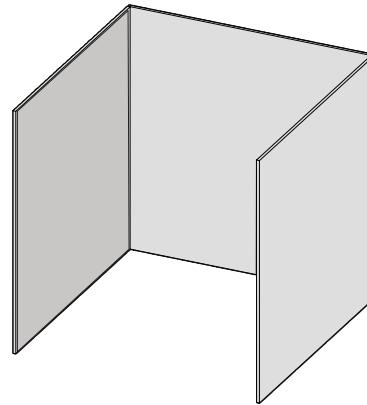

Fig. 1
- The appliance is considered outdoors if installed in a shelter with walls on three sides but no overhead cover. (**Fig 1**).